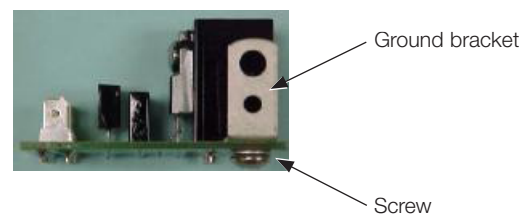

Figure 5.
10. Using the L-shaped bracket, place CT Protector (Item 4) on to the ground stud. Refer to Figure 5.